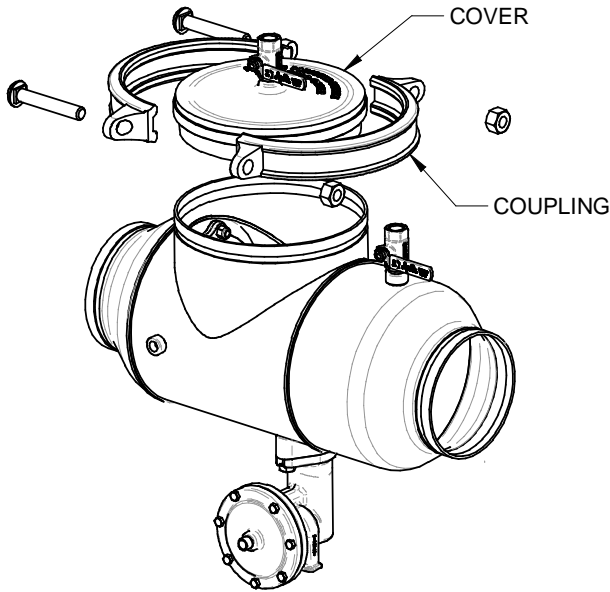
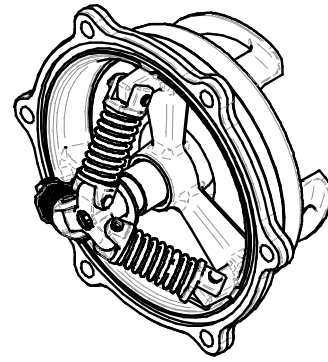

Figure 6
Figure 7
**Note:** On 10" & 12" models, the flow divider (FD) must be removed before the checks should be removed. To remove the FD, remove the 1/4" nut holding it in place. Then rotate the FD 90° and lift up and out of the valve body. Pay attention to which side of the body the FD is attached. The FD's tab should be oriented on the same side as the cover of the relief valve body. If the relief valve needs to be turned 180°, the FD must also be rotated 180°.
2. Lift off the cover. The gasket may remain on the valve body. See Figure 6.
3. Remove the six (6) reusable locknuts for 8" valves / eight (8) nuts for 10" & 12" valves on the check seat with a 3/4" socket and ratchet. *SUGGESTION: Place a rag over the relief valve opening inside the valve body to prevent the locknuts from falling into the relief valve.*
4. Slide the entire check module off the body studs and remove from body (see Figure 7).